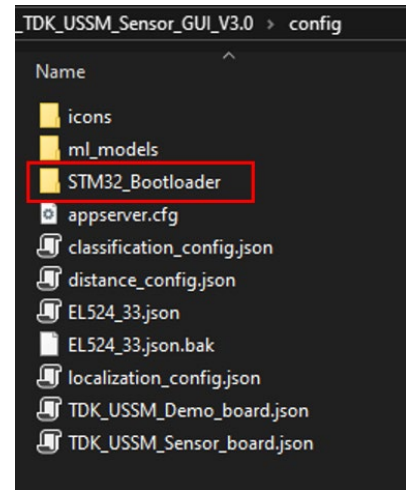

Figure 17: STM32\_Bootloader folder in the config folder
- Make sure that the *STM32\_Bootloader* folder is available in the *config* folder (Figure 17).